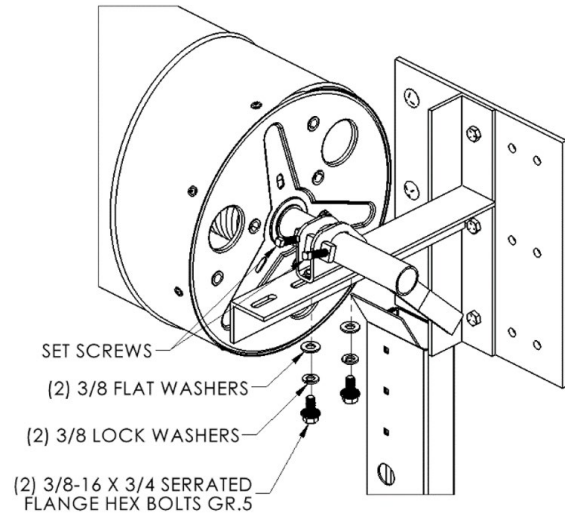

figure 13: Securing Stamped Axle Support
- Attach (1) Stamped Axle Support per side to door T-bracket using (2) each 3/8-16 x 3/4 serrated hex bolts, 3/8 lock washers and 3/8 flat washers into the slots closest to the opening. See Figure 13.